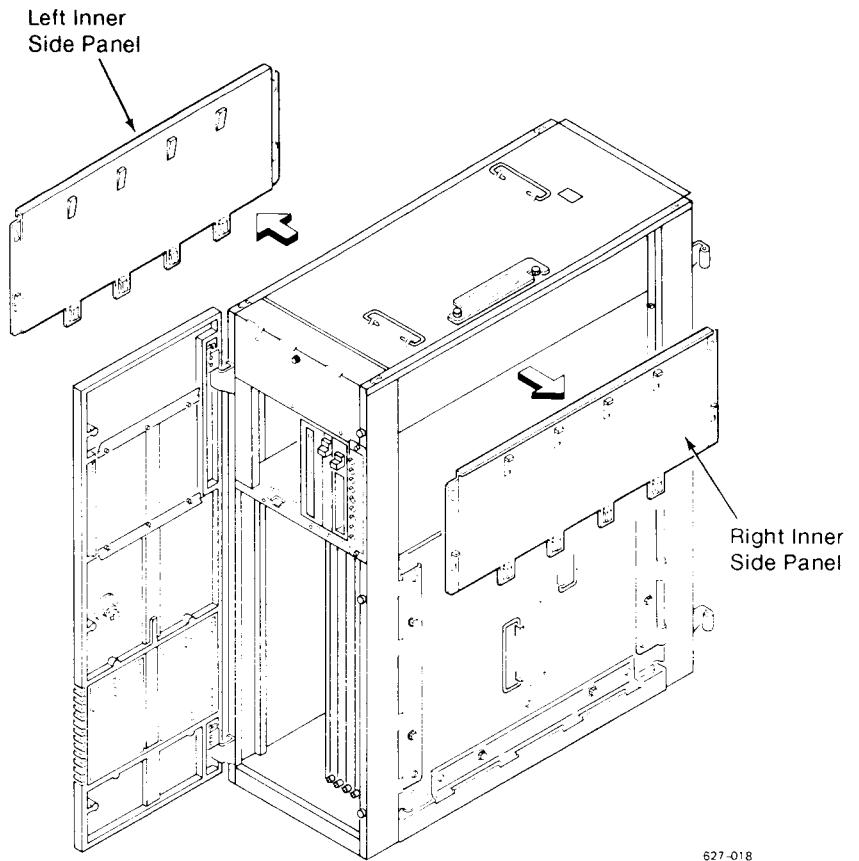

Figure 8-2. Removing the Inner Side Panels
2. Place your fingers under the lip of the panel and push up; then pull the panel toward you (see Figure 8-2). Lay the panel aside.